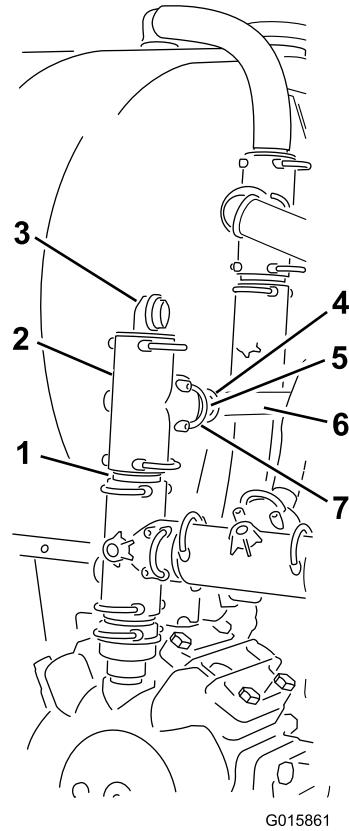

Figure 31
1. Remove the main supply hose from the tee and the agitation valve (Figure 31).
4. Install a 90-degree hose-barb fitting on the top leg of the tee (Figure 31), and secure it with a fork pin.
Note: Orient the nozzle rearward (Figure 31).